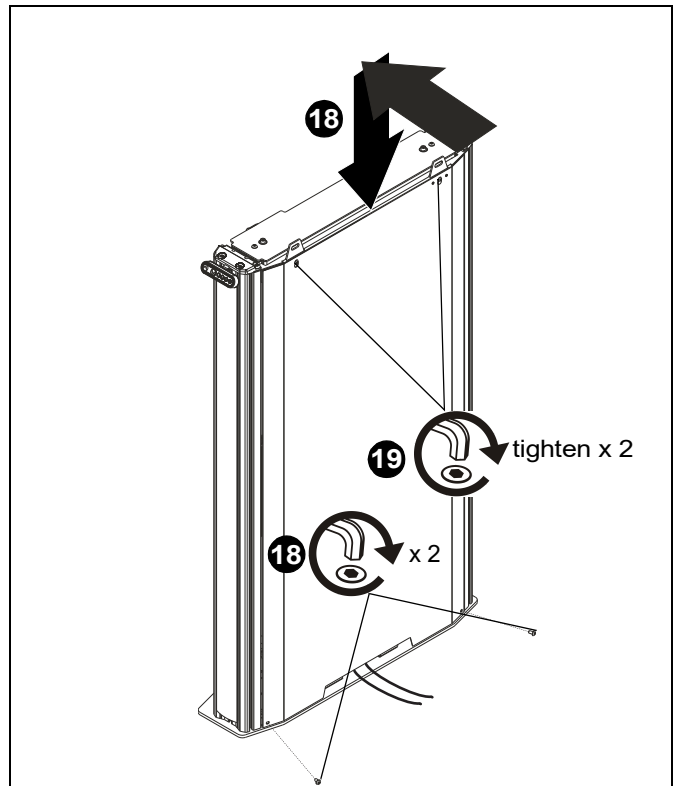

Figure 11
18. Reinstall rear cover and secure by installing screws removed in Step 6. (See Figure 11)
19. Tighten screws that were loosened in Step 7. (See Figure 11)